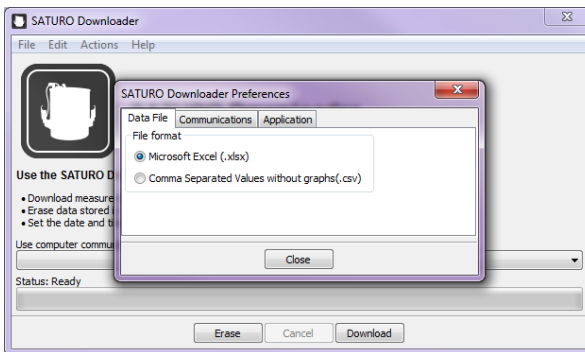

Figure 7 Change file type
3. Select the file type by selecting **Edit > Preferences > Data File** and choosing the appropriate file type (Figure 7).